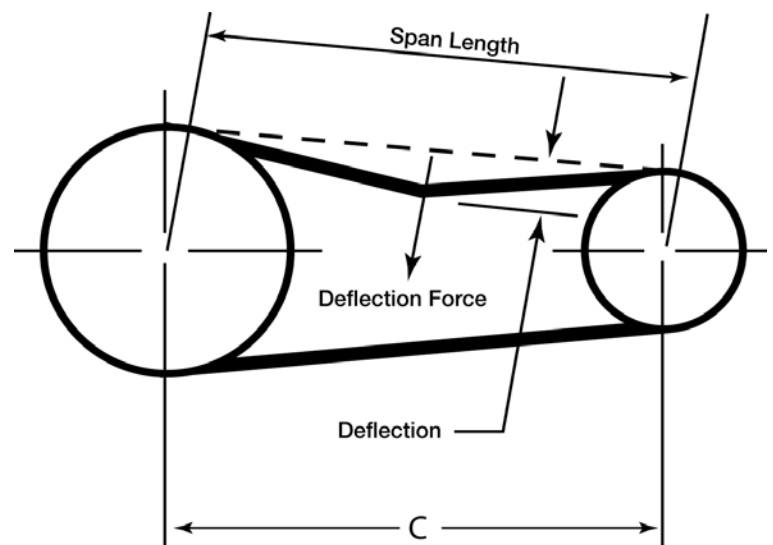
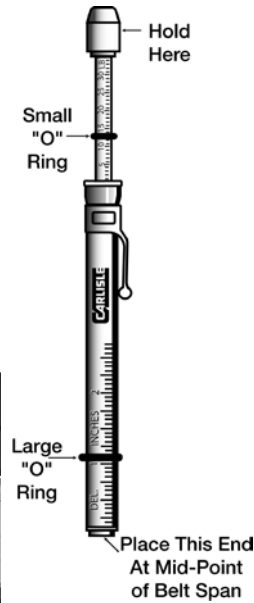

Figure 1. Belt Span Length
Figure 2. Carlisle Tensionmeter (Carlisle Part No. 102761)
2. Measure the span length of the belt. See Figure 1. Span length is the distance the belt spans between the sheaves. The desired belt deflection is 1/64 of an inch for every inch of belt span. For example, if the span length is 32 inches, the desired belt deflection is ½ inch.
3. Set the large “O” ring on the tensiometer to the desired deflection determined in Step 2. See Figure 2.
4. Set the small “O” ring on the tensiometer to the zero mark. See Figure 2.
5. Holding the tensiometer as indicated in Figure 2, press the opposing end of the tensiometer to the midpoint of the belt span as indicated in Figure 1. Press down on the tensiometer (deflecting the belt) until the large “O” ring is even with the original location of the belt. For a single belt drive, the tensiometer should be depressed until the large “O” ring is lined up with the bottom of the straight edge placed on the outside rims of the two sheaves. For a multiple belt drive, depress the tensiometer until the large “O” ring is even with the top of the next belt. Take a reading from each belt for an average.